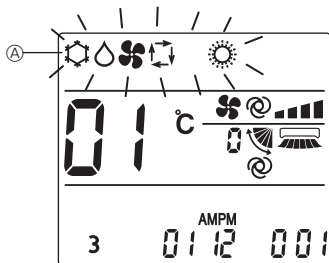

Fig. 6-11
1. Press the [] button ① to stop the air conditioner.
2. Press the [MENU] button ②. The Function setting screen will be displayed and the function No. Ⓐ will blink. (Fig. 6-11) Press the ⏴ button ④ to change the function No.